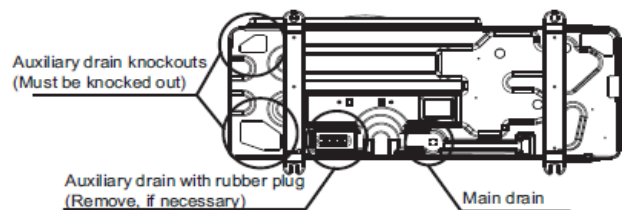

Fig. 7 —Drain Connections
- Create an outlet near the base for drainage. Refer to Fig. 7 below for main drain connection.